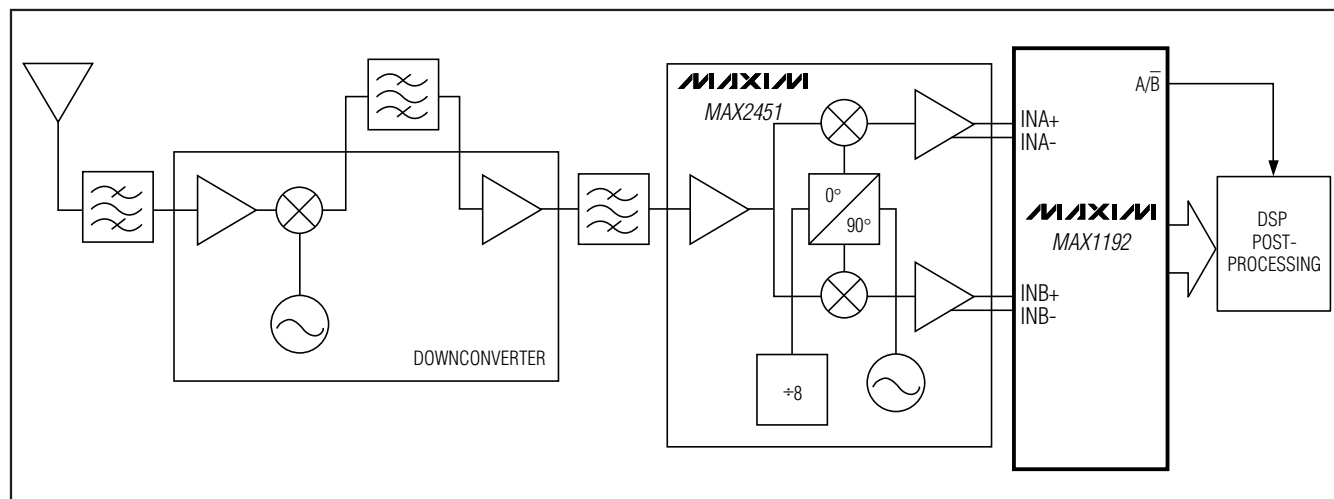

Figure 12. Typical QAM Receiver Application
Quadrature amplitude modulation (QAM) is frequently used in digital communications. Typically found in spread-spectrum-based systems, a QAM signal represents a carrier frequency modulated in both amplitude and phase. At the transmitter, modulating the baseband signal with quadrature outputs, a local oscillator followed by subsequent upconversion can generate the QAM signal. The result is an in-phase (I) and a quadrature (Q) carrier component, where the Q component is 90° phase shifted with respect to the in-phase component. At the receiver, the QAM signal is demodulated into analog I and Q components. Figure 12 displays the demodulation process performed in the analog domain using the MAX1192 dual-matched, 3V, 8-bit ADC and the MAX2451 quadrature demodulator to recover and digitize the I and Q baseband signals. Before being digitized by the MAX1192, the mixed-down signal components can be filtered by matched analog filters, such as Nyquist or pulse-shaping filters. The filters remove unwanted images from the mixing process, thereby enhancing the overall signal-to-noise (SNR) performance and minimizing intersymbol interference.